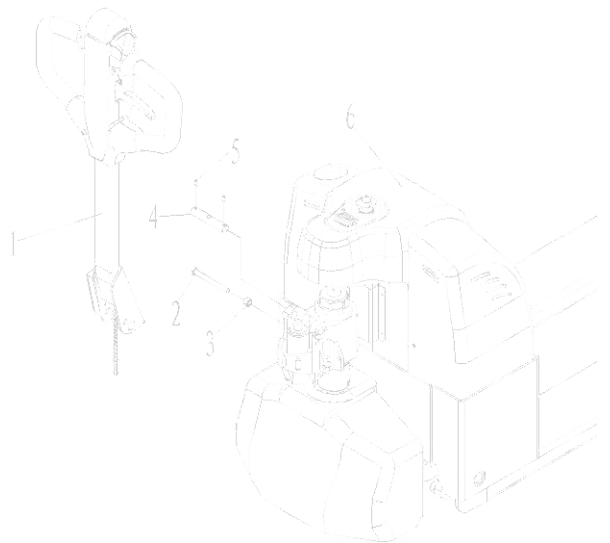

Fig. 5: tiller assembling
c) Press the tiller arm down; unscrew and remove the screw (2) and the nut (3) (fig. 5).
e) Use a hammer to insert the 2nd dowel pin (5, fig. 5) into the 2nd hole of the axle.